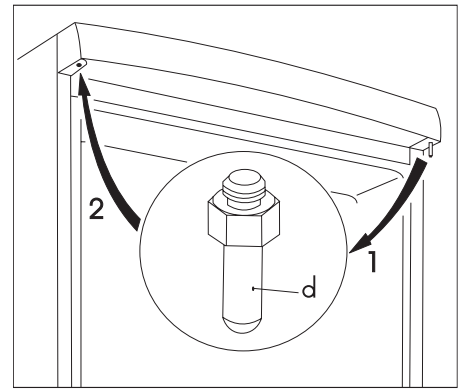

fig. 1.
9. Unscrew the top door hinge pin (d) of the refrigerator door then screw it back on the other side. (fig.1)